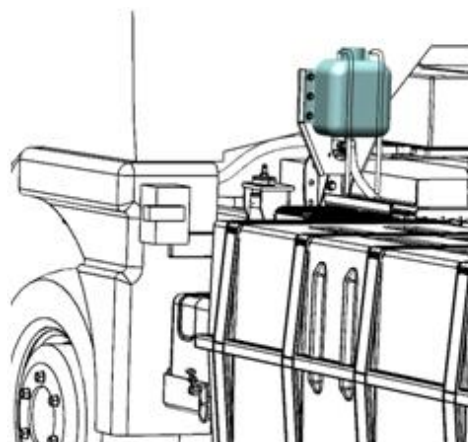

Figure 10.1
- ✓ Check that the coolant level for the drive system meets the "Max Level" mark (Figure 10.1).
- **24V System Batteries:** The 24V system is powered with two (2) 12V lead acid batteries. These batteries provide the energy to start the vehicle. If the voltage in these batteries is **below 23V** the vehicle will not be able to start.
- **24V Auxiliary Batteries (Optional):** The vehicle may also be equipped with two (2) additional 12V batteries to power 24V auxiliary equipment such as a tail lift or a hydraulic power pack.